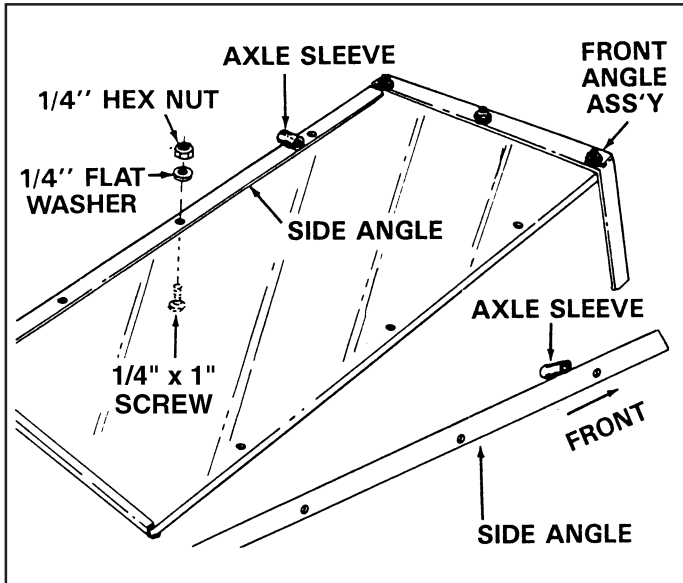

FIGURE 3
3. Turn the front angle assembly and bottom panel upside down as shown in figure 3.
4. Lay the two side angles on the bottom panel so that the axle sleeves are closer to the front angle assembly. See figure 3.
5. Secure both side angle assemblies to the bottom panel using six 1/4" x 1" screws, flat washers and hex nuts. Make only finger tight until all six screws are in place, then tighten securely. See figure 3.